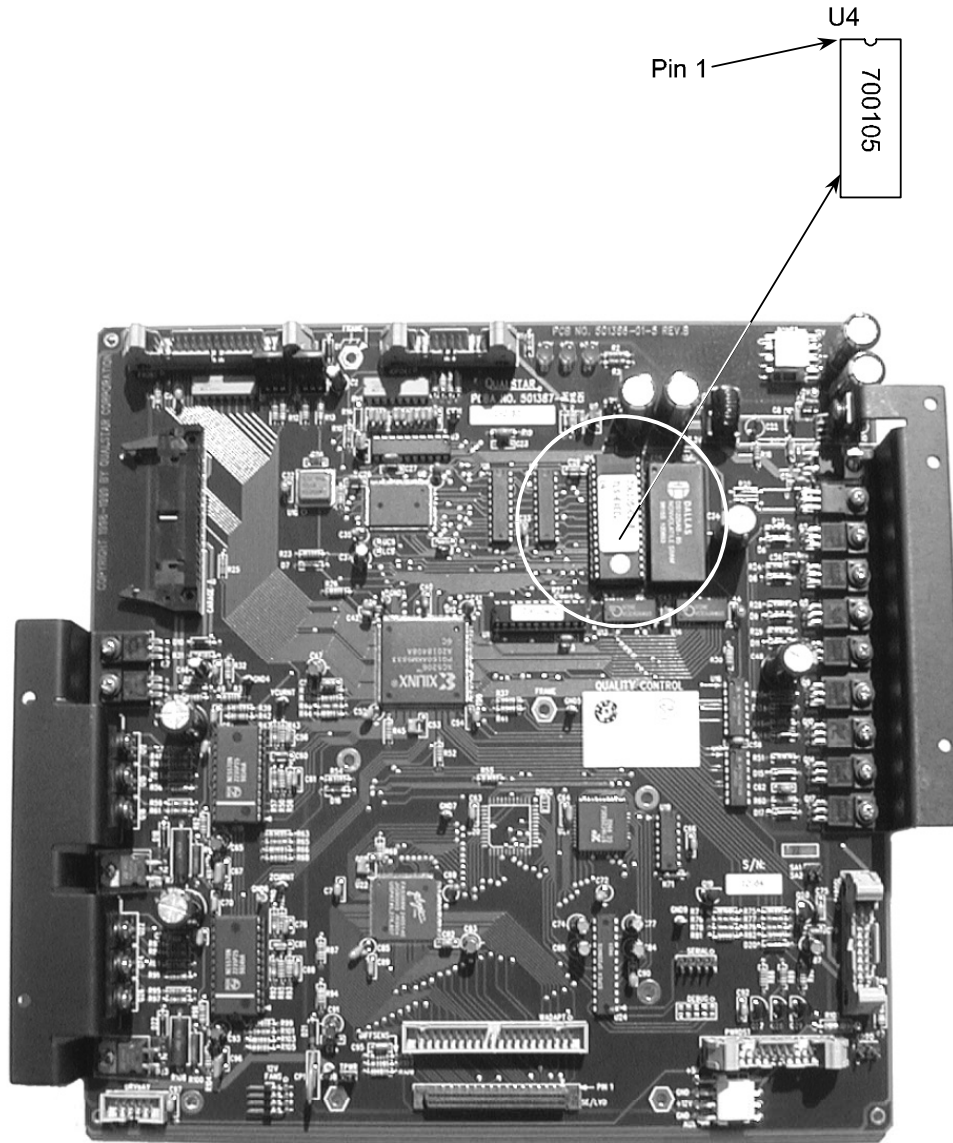
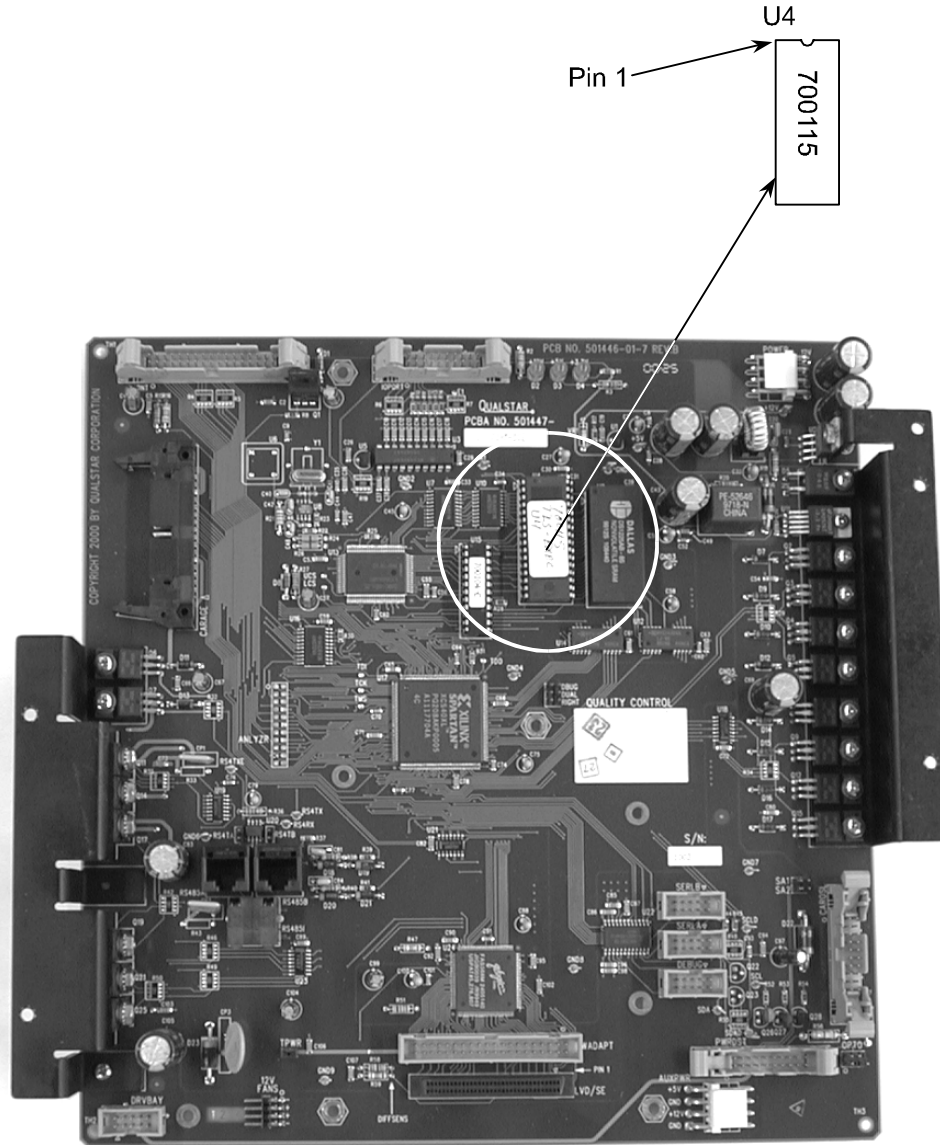

Figure 8-16 501387-01-8 Executive III PCBA
Figure 8-17 501447-01-5 Executive IV PCBA
3. Remove the Flash-Memory IC at U4 (the Part Number is 700105 or 700115) from the Executive PCBA using a flat blade screwdriver or equivalent tool. Note the IC location (U-number) is identical on Executive II, III and IV boards. Pry the IC from either end slightly and repeat for the other end. Be careful not to bend the legs of the IC. Continue this procedure until the part is loosened enough to be removed by hand. Refer to Figure 8-16 or Figure 8-17.